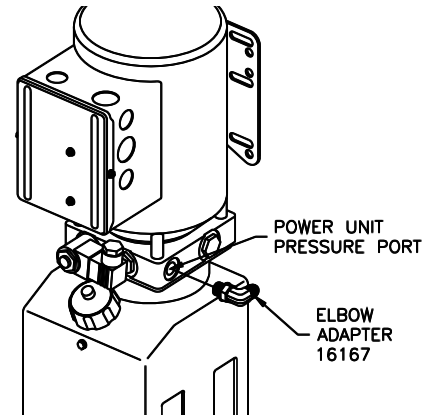

Fig 5 – Hydraulic Connections
- 5) Attach the 37-degree flare x 3/8 tube ferrule Union Adapter (supplied) to the steel hydraulic line in the lift / containment assembly. Attach the 37-degree flare x O-ring Elbow Adapter (supplied) to the power unit pressure port, **Fig 5**.